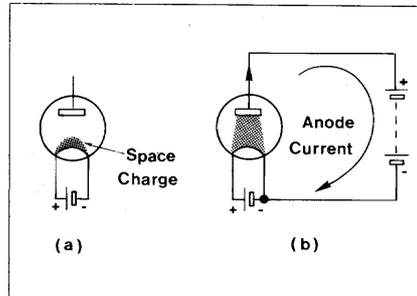

Figure 6. (a) Formation of space charge by heated filament. (b) Current flow when anode is positively charged.
receiver, it is only necessary to imagine that the anode supply is not a battery (DC), but is a high frequency oscillation (AC). The anode is now alternately positive and negative on each successive half-cycle of the r.f., and since anode current only flows on positive half-cycles, the alternating signal is converted to a unidirectional output (Figure 6). Furthermore, since the strength of the anode current depends upon the potential on the anode, strong signals would produce large anode currents and weak signals, small ones.